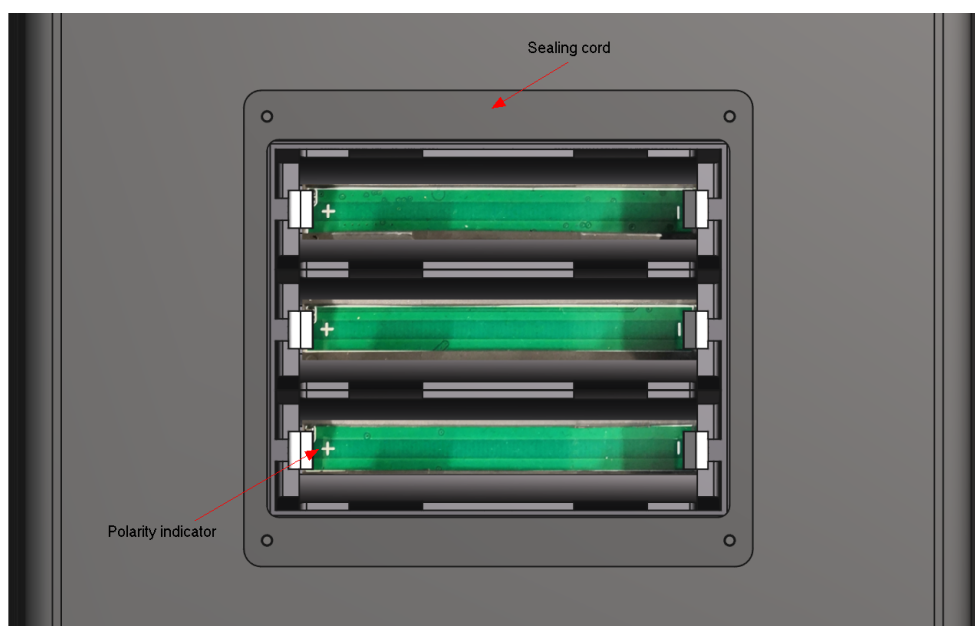

Figure 7: Battery compartment
- Replace batteries, observing correct polarity printed in the battery compartment (see Figure 711).
- Insert the new batteries, ensuring you follow the safety guidelines and observe the correct polarity. The polarity markings are printed at the bottom of the battery compartment (see Figure 711).